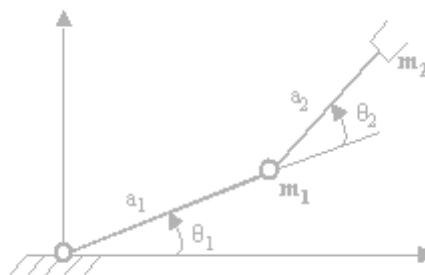

Figure 7
7. Determine the dynamic equations for the two-link manipulator shown in Figure 7. Assume that the whole mass of the link can be considered as a point mass located at the outermost end of each link. The masses are m_1 and m_2 and the link lengths are a_1 and a_2 . [16]